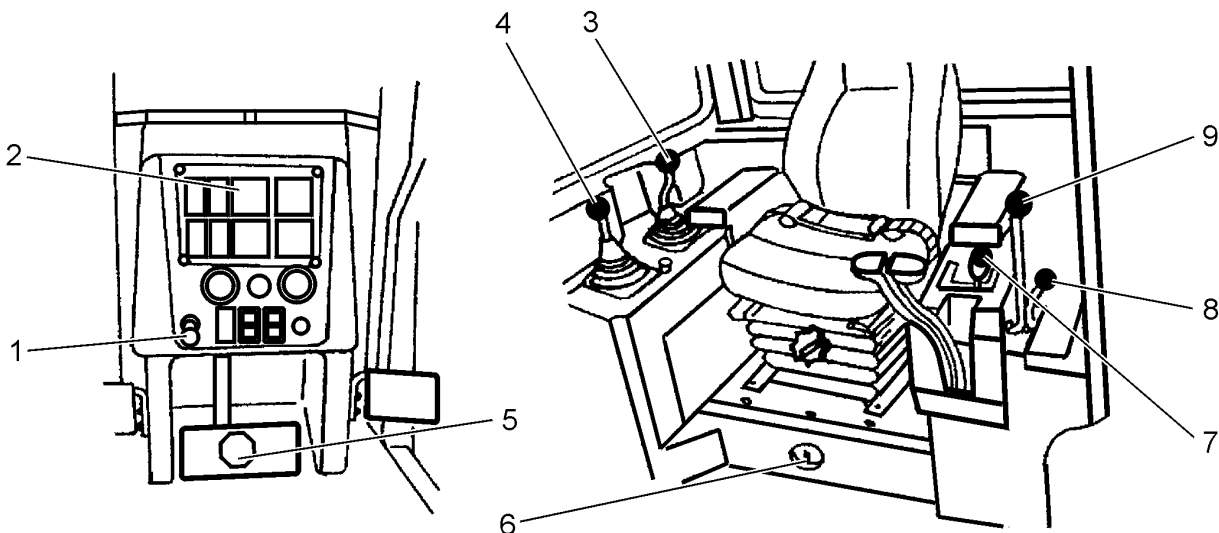

Fig. 4.17. Stopping the Engine
#### 4.7. STOPPING THE ENGINE (Fig. 4.17)
**STOPPING THE ENGINE (Fig. 4.17)**
1. Using control lever (3 and 4) lower all mounted equipment to the ground. Depress brake and decelerator pedal (5) and place transmission shift lever (7) into NEUTRAL.
2. Apply transmission neutral lock lever (9).
4. Depress and lock brake and decelerator pedal (5).
5. Move engine speed and shut down lever (8) to large notched OFF position – the solenoid valve will shut down the engine.
6. Turn electric master switch (6) in OFF position.